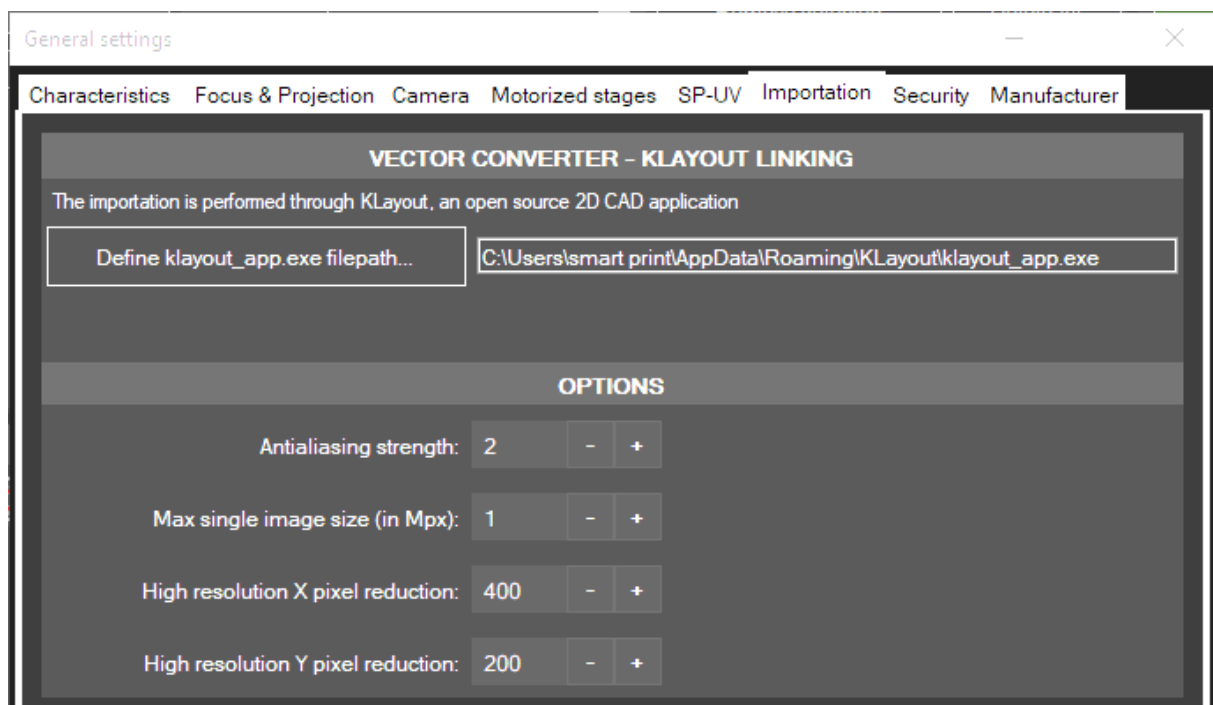
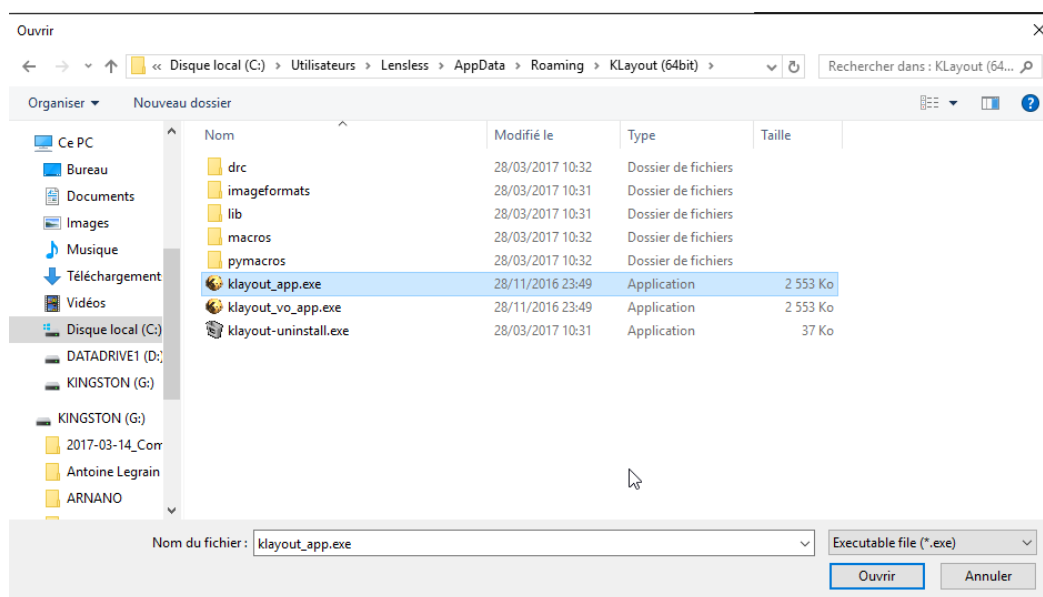

Figure 71 – Settings: vector drawing importation options
Figure 80 – Folder containing the KLayout executable
The vector drawing importation module use a third-party open-source software (KLayout). If KLayout has been installed on its default location (section 5.2.4 for more details), *Phaos* will link automatically to KLayout. If not then click on **Define klayout\_app.exe filepath** (Figure 71) and select the file *klayout\_app.exe* in the main directory of KLayout.
*If KLayout is not found by Phaos (admin privilege required):* Go to the menu **File** → **Settings**. In the **Importation** tab, click on **Define klayout\_app.exe filepath...** (Figure 71). In the **Open** window, find and select the executable file *klayout\_app.exe* (Figure 80).